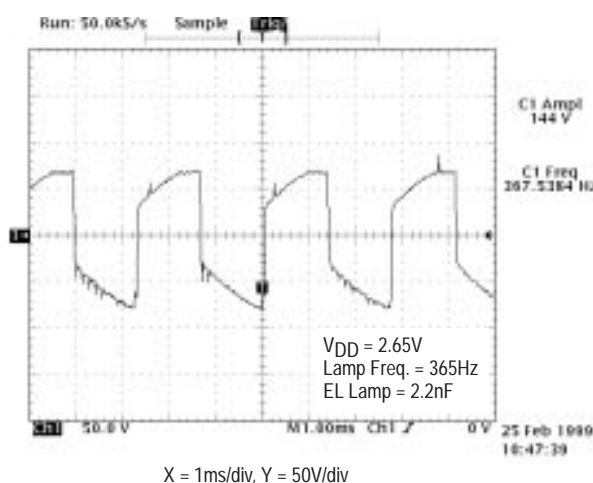
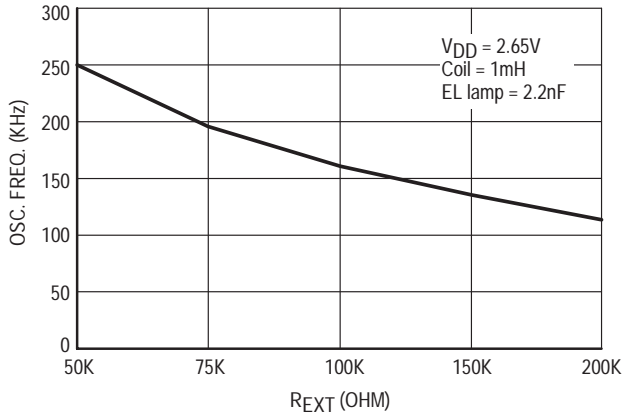

Figure 3. Output Waveform vs. Time
Figure 4. Oscillator Frequency vs. R_{EXT}
Since the fundamental frequency of the oscillator is set by the external resistor (R1), the temperature coefficient of the frequency is dominated by the value of this resistor. A low temperature coefficient (TC) resistor is suggested to use for keeping the variation of oscillator's frequency low against the operation temperature range. (See Page 4, Fig. 3 & Fig. 4)